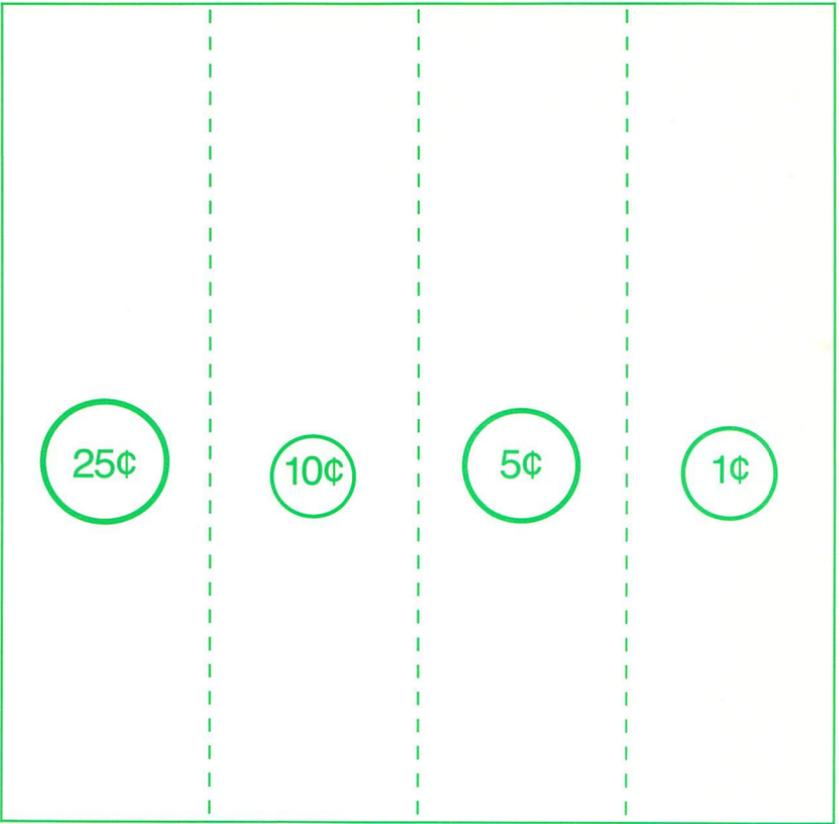

Fig. 5.
- Using a marking pen, divide the overlay into four equal vertical columns. See Figure 5.